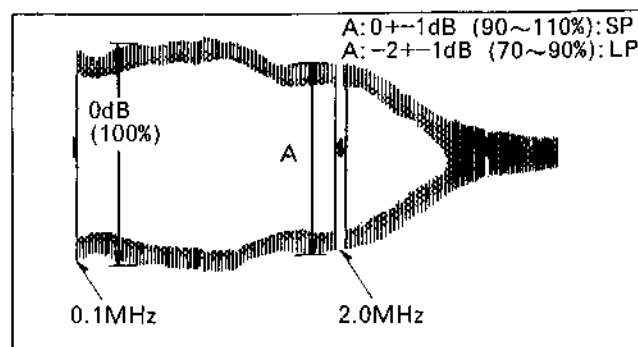

FIG. E20
- Adjust volume VR3102(SP), VR3103(LP) respectively so that the level at 2MHz (A) becomes within specification comparing with the level at 0.1MHz as shown in FIG. E20.